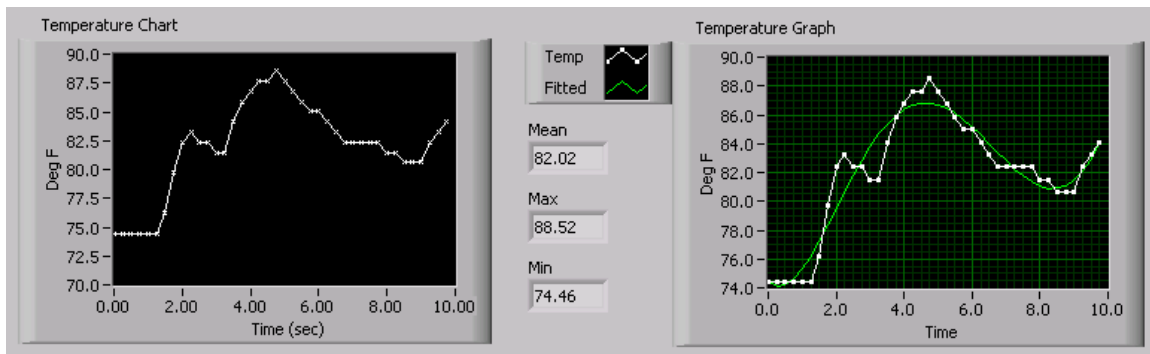

Figure 7.22
1. Open a blank VI and build the front panel shown in Figure 7.22.